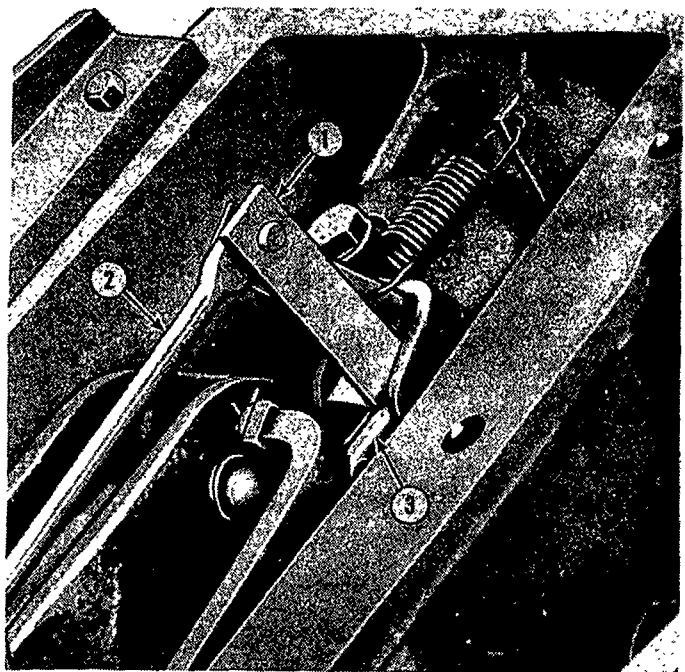
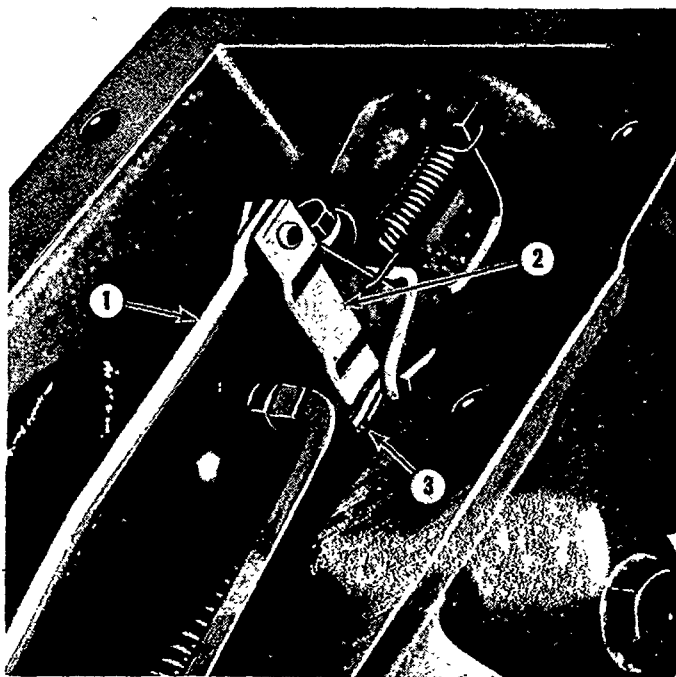

Figure 14
Figure 15
4. Remove the cotter pin and washer from the strut attaching pin and install Tool No. SW 862-B, Figure 14, or Tool No. SW 26, Figure 15, between the control rod roller and strut attaching pin as shown.